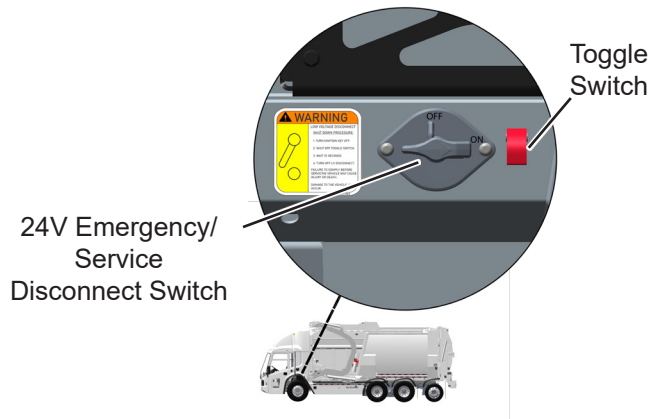

Figure 1
4. Shut off toggle switch next to the 24V Emergency/Service Disconnect Switch (Figure 1).
6. Turn 24V Emergency/Service Disconnect Switch to OFF (Figure 1).